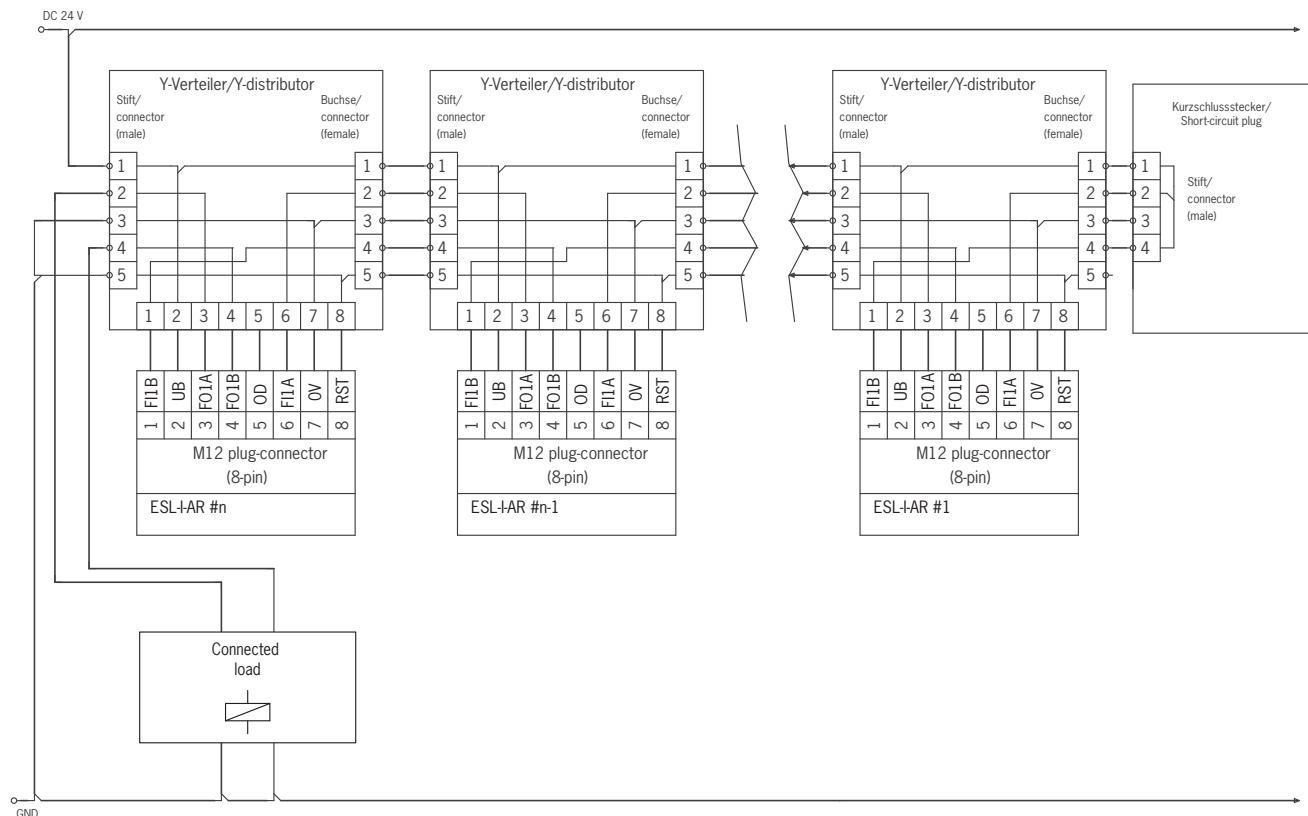

Figure 4: Connection example for series connection of several ESL-AR devices
- A common signal must be used for all switches in the chain. This can be a changeover switch or the output of a control system. A pushbutton is not suitable because the reset must always be connected to GND during operation (see switch S1 in Figure 4 on page 17).
The RST input must be connected as shown in *Figure 4 on page 17* to permit this.